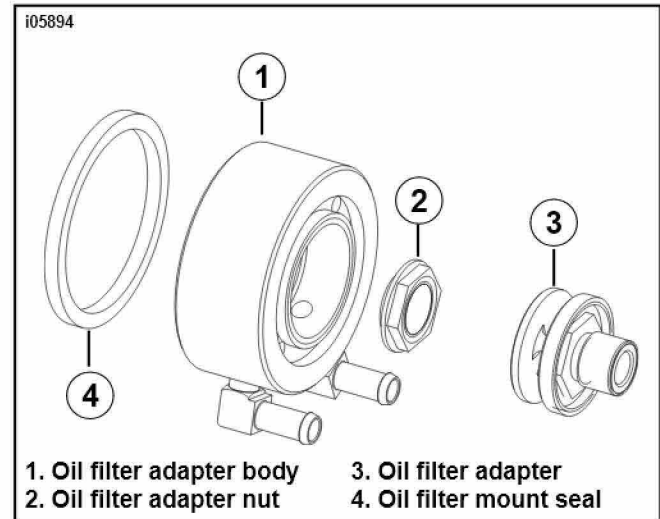
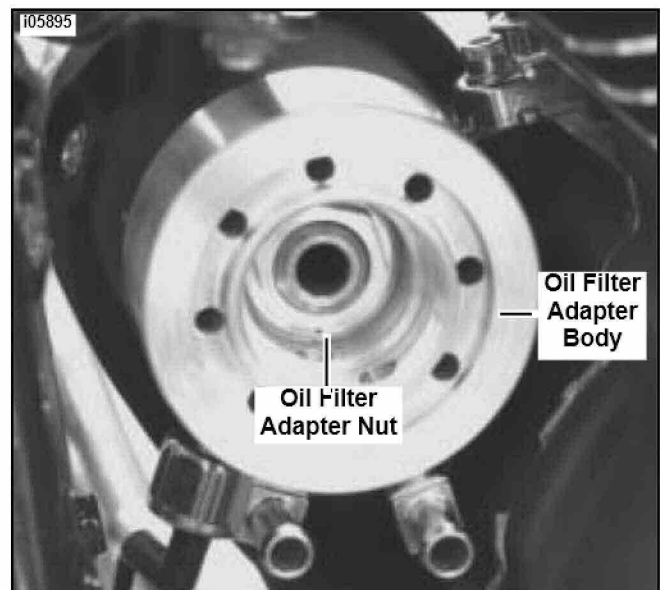

Figure 2. Separate Filter Adapter Assembly
Figure 3. Install Oil Filter Adapter Nut and Body
2. See Figure 2. Obtain the oil filter adapter assembly and separate the adapter components.
3. See Figure 3. Orient the oil filter adapter nut as shown in Figure 2 and align with smaller hole in oil filter adapter body.
4. See Figure 3. Thread the oil filter adapter nut (with body) onto the stock oil filter mounting stud and finger tighten. **NOTE:** It is not necessary to lubricate the rubber sealing ring. Orient the oil filter adapter body so that hose fittings are located at the bottom of the assembly. While holding adapter body to keep from turning, tighten the oil filter adapter nut to 144 in-lbs (16.2 Nm).